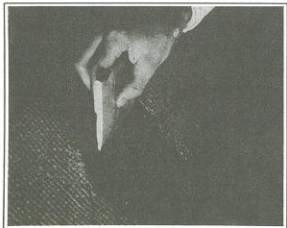

Figure 2-84. Squeegeeing Patch
7. Lay patch over hole, cover with cellophane and squeegee out air bubbles. Allow one to two hours to cure, then remove cellophane. See Figure 2-84.